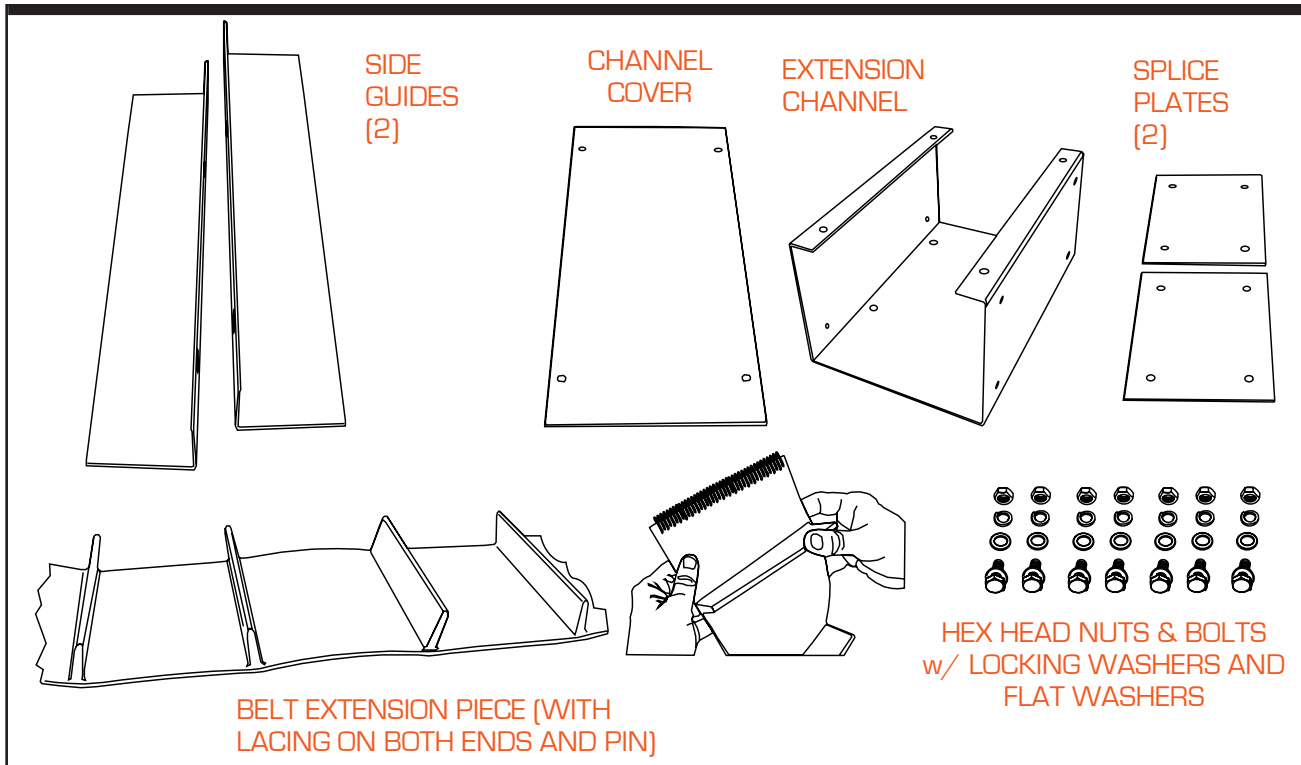

Figure 3-9. Extension Kit for Prefeeder Extension
**Step 5–The Elevator Extension Kit Contents.** The extension kit will include the following: Channel Extension (1), Side Guide Extension (2), Splice Plates (2), Channel Cover (1), associated hardware, and Belt Extension (see Figure 3-9 on the following page).
**Step 6–Install Extension.** Attach the splice plates to the extension channel (inside), hand-tightening the bolts prior to installing the extension on the prefeeder. Then lift the extension up slide it onto the prefeeder neck, securing it with hand-tightened hex head bolts (2). Before tightening the bolts, align the seams of the existing channel and the new extension as closely as possible. Tighten the extension channel bolts and splice plate bolts at this time.
**Step 8—Re-Install LH/RH Exit Guides and New Side Guides.** Replace the left hand and right hand exit guides (removed in Step 4) and align the new side guide extensions along the channel, using the holes provided in the channel. Once aligned, attach with the new hardware (Figure 3-9).